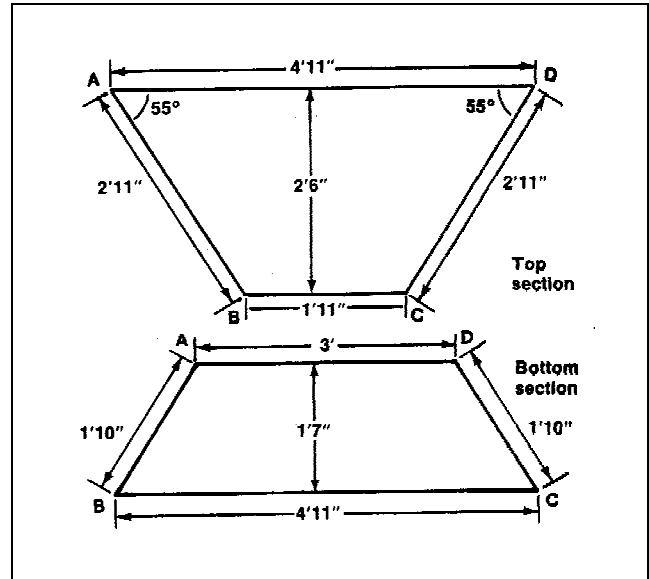

Figure 3. Insulation top and bottom sections.
2. Cut a third section of insulation to fit under the top of the drum as shown in Figure 3. Dimensions are: 4 ft. 11 in. x 2 ft. 11 in. x 1 ft. 11 in. x 2 ft. 11 in. Cut sides A-B and C-D on an angle as shown.
3. Cut a fourth section of insulation to fit under the base of the drum as shown in Figure 3.